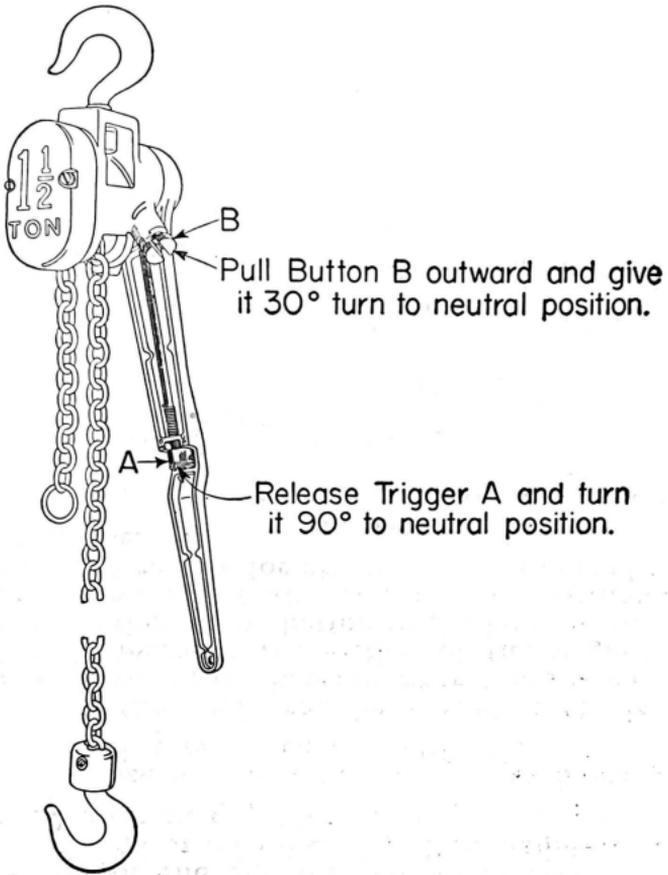

Fig. 1
2.04 Before using a hoist, make certain the ratchet pawl on the housing (button B in Fig. 1) moves freely in the housing guide and is not restricted in any way, such as being pressed against a pole.
3.01 The 3/4 ton and 1-1/2 ton chain hoists (1-1/2 ton size shown in Figs. 1, 2, and 3) are similar in design and operation, except for size and omission of the gear reduction assembly in the 3/4 ton hoist, and consist principally of the following:
3.04 If desired, the chain can be moved freely in either direction through the housing when there is no load on the chain. Fig. 1 illustrates the setting of the trigger in the handle and the position of the button in the housing to provide a free running chain. This feature enables the position of the chain to be adjusted readily for attachment to the load without operating the handle.